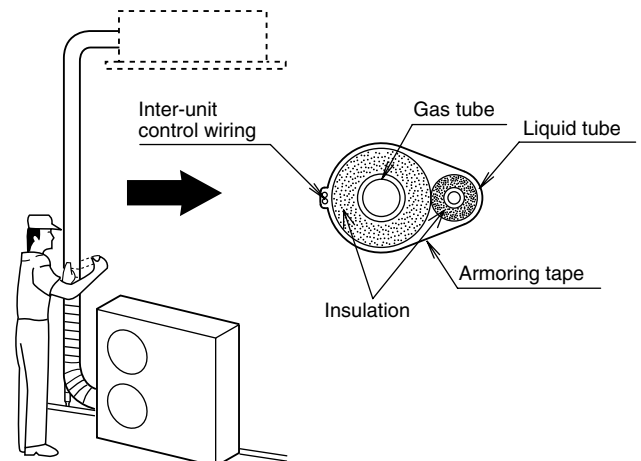

Fig.7-12
- (1) At this time, the refrigerant tubes (and electrical wiring if local codes permit) should be taped together with armoring tape in 1 bundle. To prevent condensation from overflowing the drain pan, keep the drain hose separate from the refrigerant tubing.
- (2) Wrap the armoring tape from the bottom of the outdoor unit to the top of the tubing where it enters the wall. As you wrap the tubing, overlap half of each previous tape turn.
- (3) Clamp the tubing bundle to the wall, using 1 clamp approx. each meter. (Fig. 7-12)